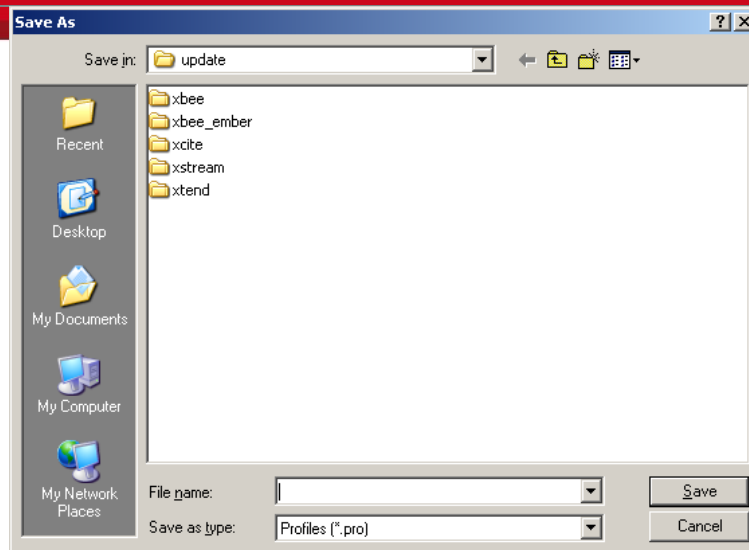

Figure 14
- 3: Type in the desired name of this profile in the File Name box (see Figure 14)